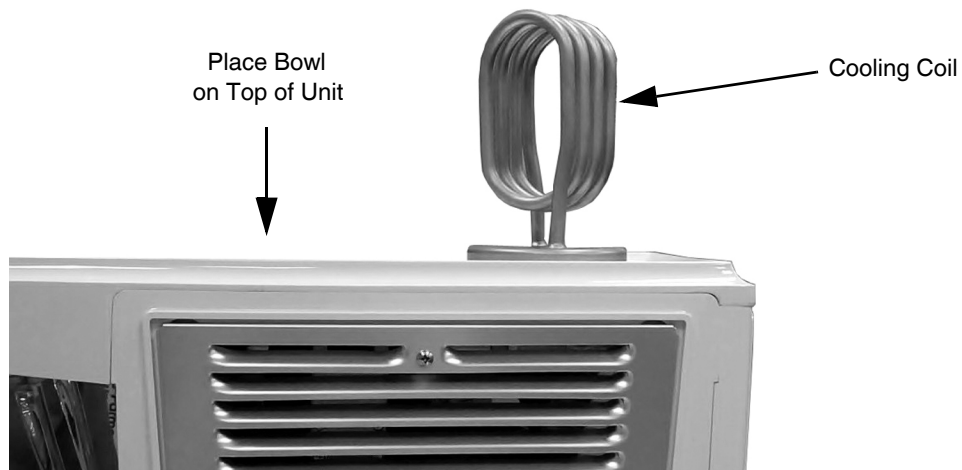

Figure 7.
5. Slide the bowl over the cooling coil and assemble the bowl to the dispenser. Be careful not to wrinkle the gasket. If gasket is wrinkled, beverage will leak out of bowl. (See Figure 7.)